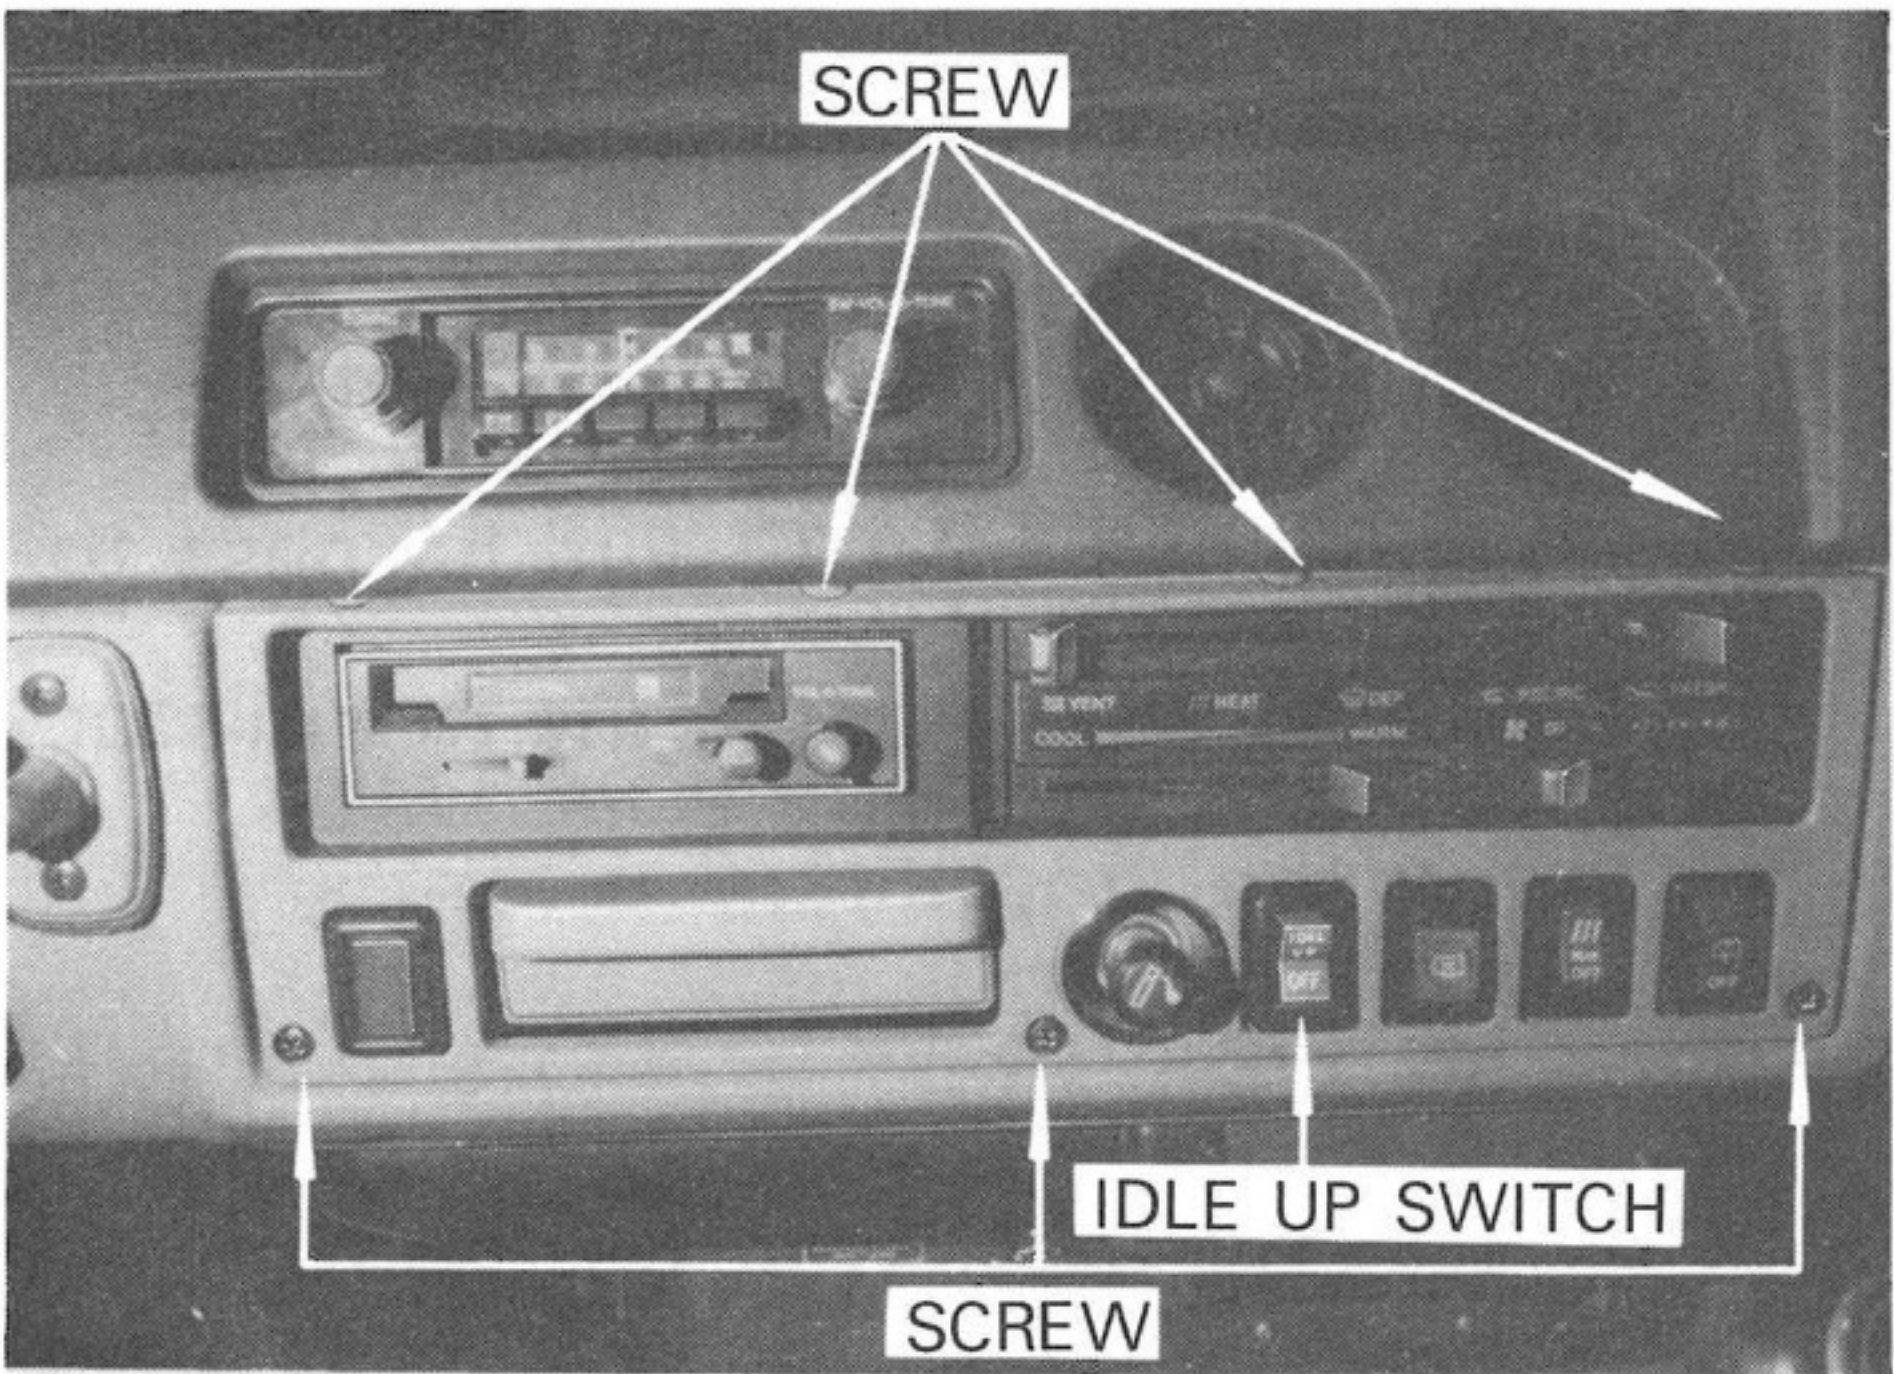

Fig. 1-9
See Fig. 1-9.
- B) Remove the A/C control panel and install the A/C switch using a tapping screw as shown in Fig. 1-9.